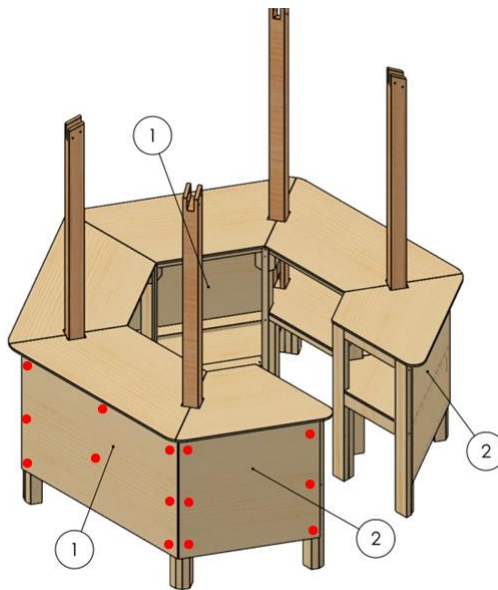

Figure 8
9) Screw the front face pieces of plywood onto the leg assemblies as shown in Figure 8 below using 2" screws(Bag #3). Pre-drill 1/8" holes in the pattern shown below (red dots) in Figure 8.